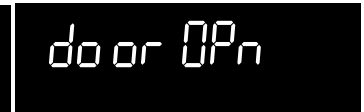

Fig. 4
2. Once the oven has cooled down for about 1 hour and "Hot" is no longer displayed the "door OPn" message should appear (Fig. 4). When this message turns off the oven door may be opened. Use **caution** and avoid possible burns when opening the door after the self-cleaning cycle has completed. The oven may still be **VERY HOT**.
2. Allow enough time for the oven to cool and for the "door OPn" message to appear (Fig. 4). When this message turns off the oven door may be opened. If a self-clean cycle was active, then stopped or interrupted by power failure, it may be necessary to run a self-clean cycle again to thoroughly clean the oven. Please be aware that you may need to allow up to four hours before self-clean can be started again.